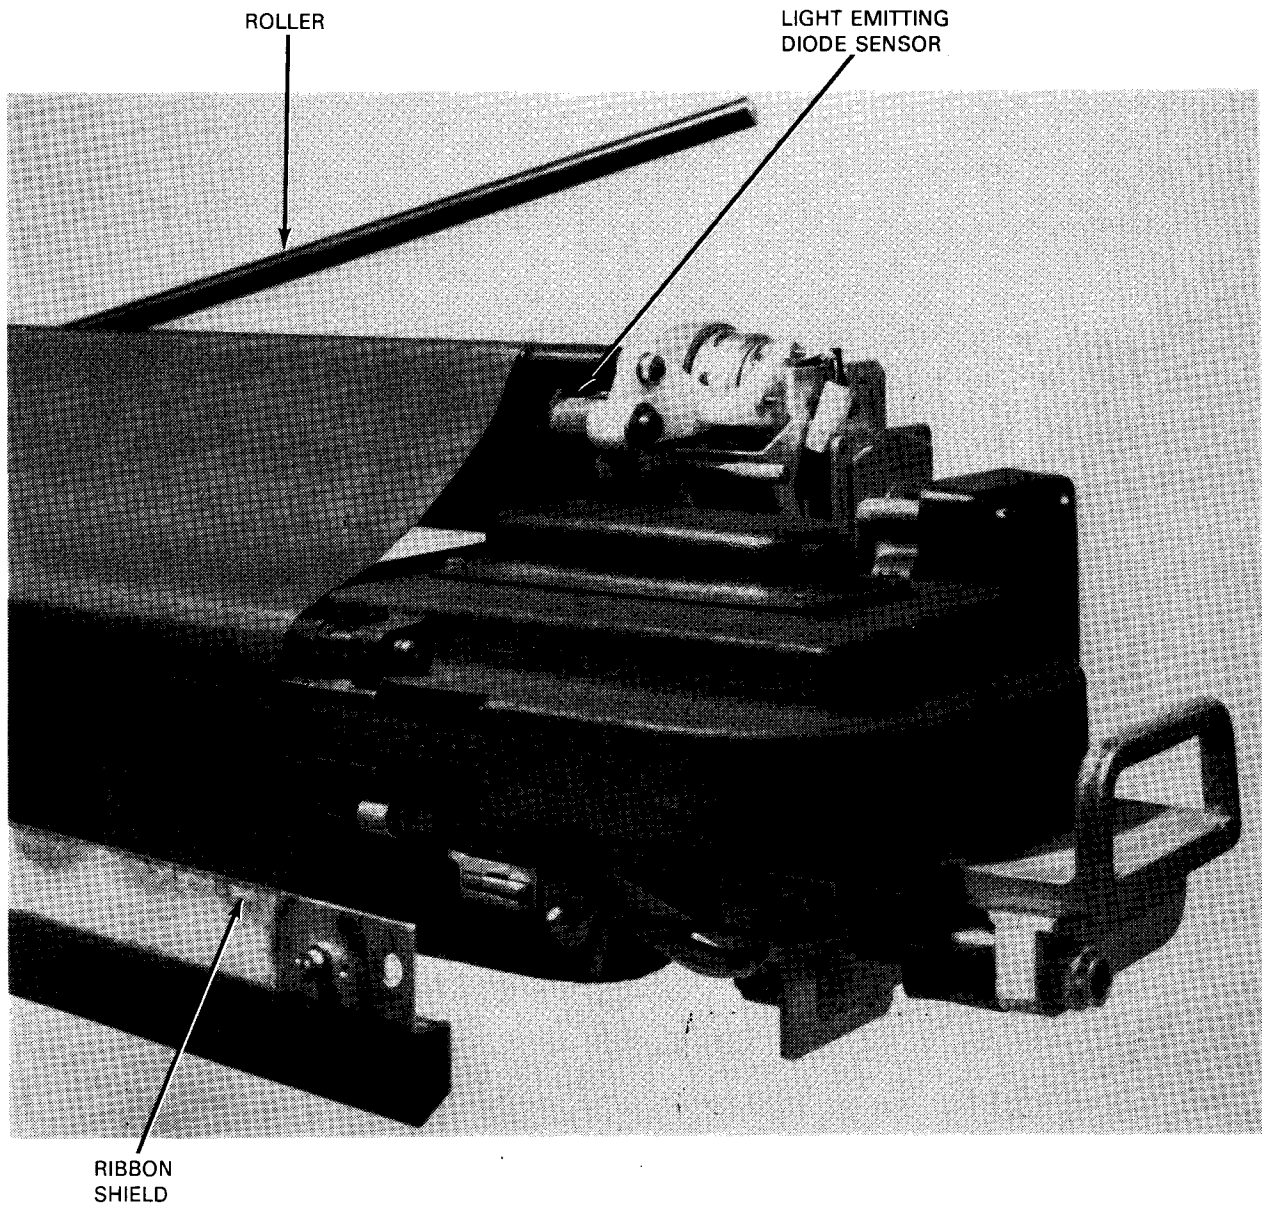

Figure 4-9. Ribbon Shield Open
2. Open ribbon shield by pulling right-hand side of shield from magnetic latch. Swing shield back (Figure 4-9).
9. Take up slack in ribbon by turning ribbon rolls. Make certain ribbon edge passes inside ribbon light emitting diode (LED) (Figure 4-9).